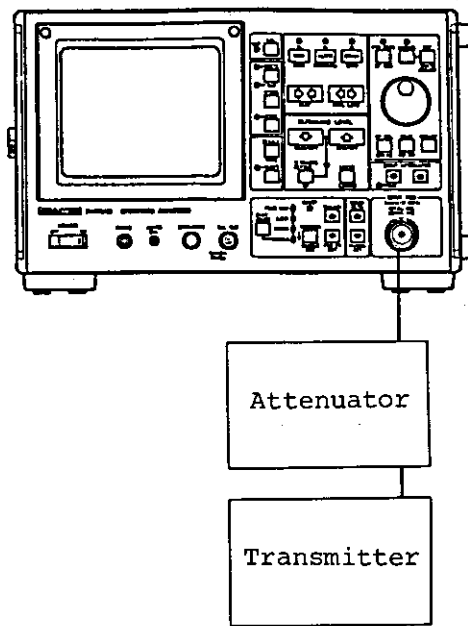
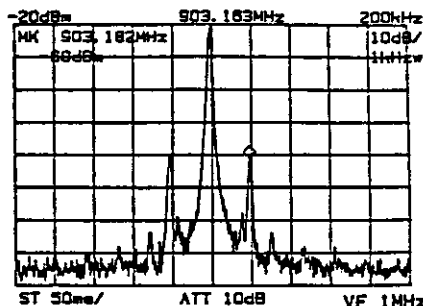

Figure 5-2 Set-up in Measurement of Modulation Wave
Figure 5-9 Measurement of AM Wave When Modulation Frequency is High and Modulation Index is Small
- ① Connect the AM transmitter output to the INPUT connector of this equipment by making it pass through the external attenuator when necessary (Figure 5-2).
- ① Connect the AM transmitter output to the INPUT connector of this equipment by making it pass through the external attenuator when necessary as shown in Figure 5-2.
- ② Set the center frequency to the frequency of the carrier.
- ③ Set the frequency span to less than 10 times the modulation frequency.
- ④ Set the marker to the peak of the carrier and keep recording that frequency (Figure 5-9).
In the example of Figure 5-9, $f_m = 20$ kHz and $m = 2\%$.
- ① Connect the FM transmitter output to the INPUT connector of this equipment by making it pass through the external attenuator when necessary, as shown in Figure 5-2.
- ② Set the carrier of the signal so that it becomes the center frequency, and make it the span suitable for analyzing the spectrum.
- ③ Set the marker to the peak of the signal.
- ④ Set the marker level to the reference level.